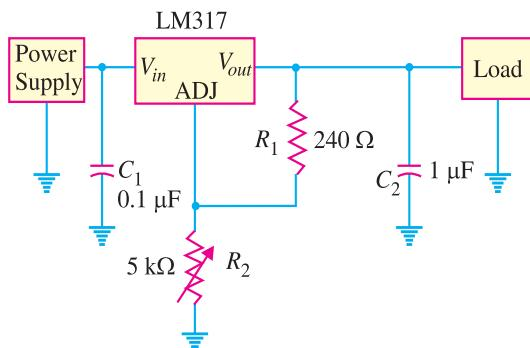

Fig. 17.35
5. If R_2 in Fig. 17.35 is adjusted to 1.68 k Ω , determine the regulated d.c.output voltage for the LM 317. [10 V]